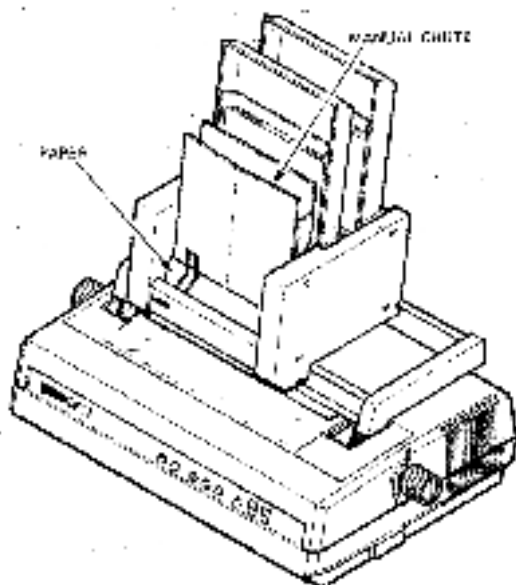

Figure 1-4 Feeding the Paper
2. Insert one sheet of paper in the manual chute as far to the left as possible. Using the platen knob, advance the paper until it feeds through the pinch rollers in the ASF (Figure 1-4).